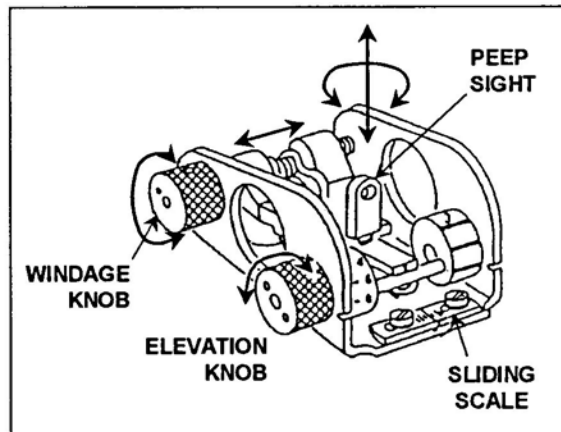
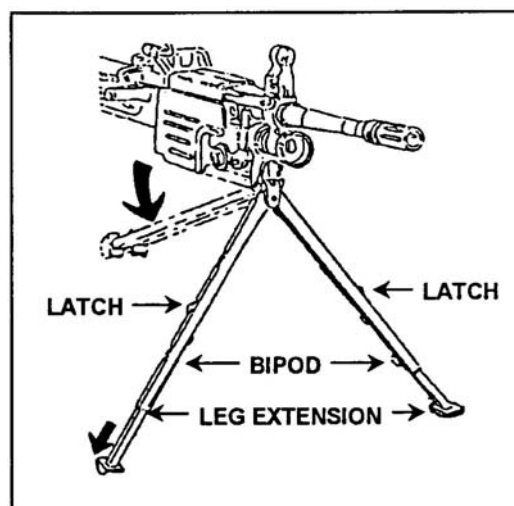

Figure 1. Sliding scale on sight.
Figure 2. Lowering the bipod.
- a. Elevation: Using the elevation knob, index the known range (300 meters) to the target. Center the peep sight by rotating it clockwise (right) as far as it will go, then rotate it counterclockwise (left) 5 clicks (Figures 1 and 2).
numbered range settings are on the left side of the scale wheel and the odd numbered range settings are on the right (Figure 1 and Figure 2).
b. Windage. Rotate the windage knob toward the muzzle until the peep sight is completely to the right, then rotate the windage knob toward the buttstock 12 clicks to the left. This will place the peep sight in the approximate center of the sight (Figures 1 and 2).